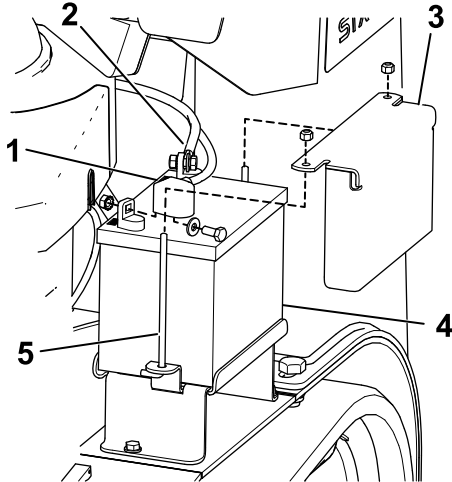

Figure 42
3. Lift the black rubber cover on the negative cable. Disconnect the negative battery cable from the negative (-) battery terminal (Figure 42).
4. Slide the red terminal boot off the positive (red) battery terminal. Then remove the positive (red) battery cable (Figure 42).
5. Remove the hold down plate, j-bolts, and locknuts securing the battery (Figure 42) and remove the battery.
1. Using the fasteners previously removed, install the positive (red) battery cable to the positive (+) battery terminal (Figure 42).
3. Using the fasteners previously removed, install the negative (black) battery cable to the negative (-) battery terminal (Figure 42).
4. Secure the battery using the bar and wing nuts (Figure 42).